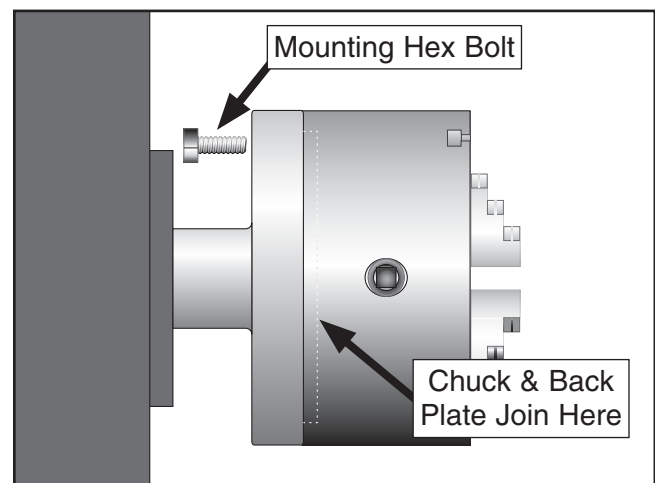

Figure 30. Chuck and spindle back plate.
5. With assistance, lift the chuck up to the plate and align the threaded hole in the back of the chuck or faceplate with the bolt (see **Figure 30**).